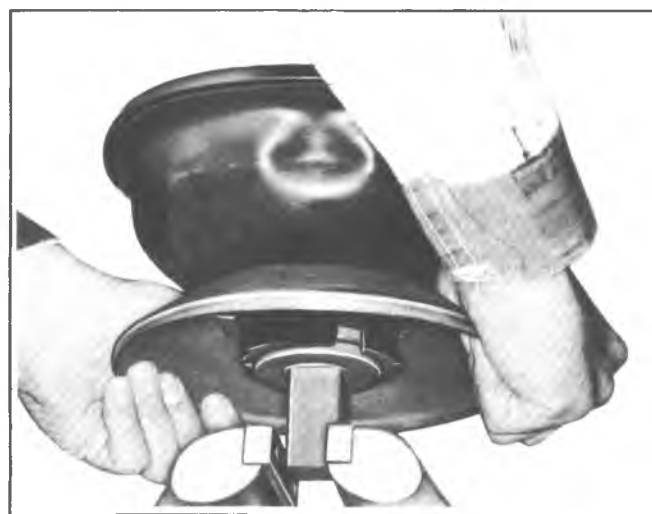

Fig. 5-7C--Positioning Power Piston on Support Plate Remover
6. Pull diaphragm edges away from support plate so hands can grip steel support plate. Position assembly on power piston Tool J-21524 so three lugs on tool fit into three notches in power piston (fig. 5-7C).